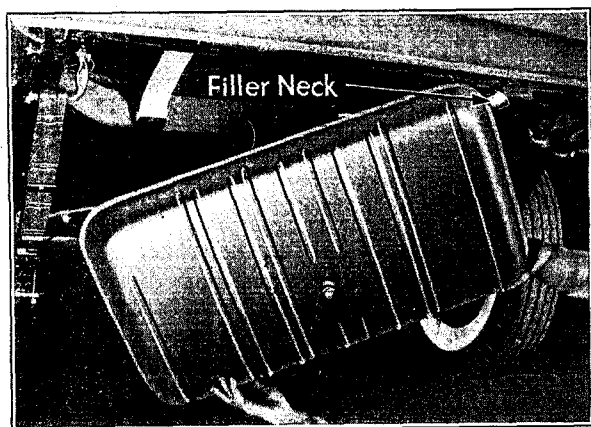

Fig. 2. Removing Gasoline Tank
9. Remove tank from car. See Fig. 2.